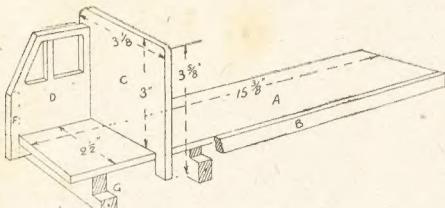

Fig. 3—General construction work
On each side of this floor and at the rear part are the sides (B) which measure 12½in. long by ½in. by ¼in. in section. Glue these pieces on and add one or two fine nails. Next mark out and cut the back of the cab, or the fire shield, as it is properly termed. In Fig. 3 the dimensions for this are given to be cut from ½in. wood. Round off the top corners neatly as shown. Glue this to the floor and close up against the sides (B) and put in a few fine brads or wire nails from beneath.
We now make the axles for the wheels, and it will be seen from Fig. 3